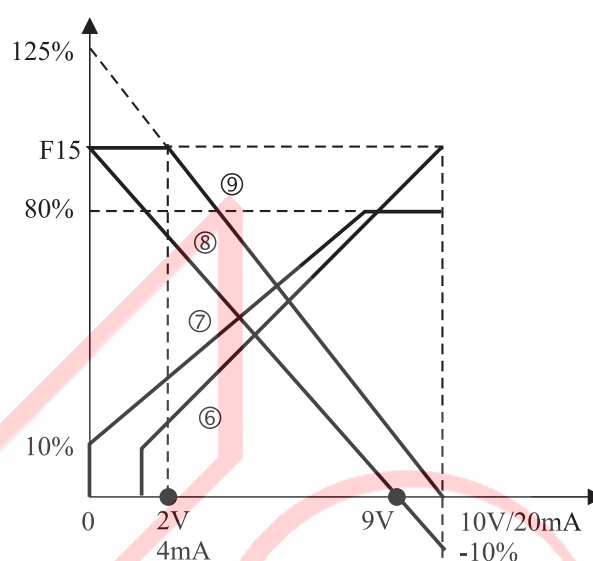

Fig. 2
**\* Refer to the Description Given Below According to the Chart Given Above Fig. 2:**